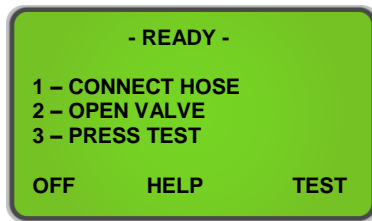

Figure 7
When the unit has completed a successful Air Calibration, the analyzer is then ready for gas testing. The unit will display the screen shown in **(Figure 7)**. Determine if you are Vapor Sampling or Liquid Sampling and make sure the proper hose assembly is connected to complete your required form of testing. Section **2.4 Vapor Sampling** and **2.5 Liquid Sampling** outline proper procedure for both forms of testing.
- 2) Open the low side valve of the cylinder and press 'TEST' **(Figure 7)**.
- 5) Press 'TEST' on the Analyzer (**Figure 7**).
Upon completion of the test, the *Ultima ID Pro™* will display a screen similar to that shown in (**Figure 9**). Pressing the 'MORE' button will display the screen shown in (**Figure 10**). Once you have completed your test, press 'DONE' to return back to the 'READY' screen (**Figure 7**) or refer to section **2.10 Print the Test Results & Channel Data** to print.